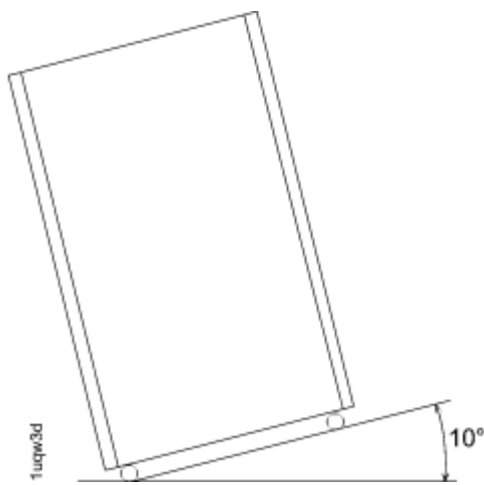

Figure 6. Maximum tilt for a packed frame is 10°
3. To compensate for the weight of the storage system shipment, ensure that the loading ramp at your site does not exceed an angle of 10° . (See Figure 6 on page 85.)